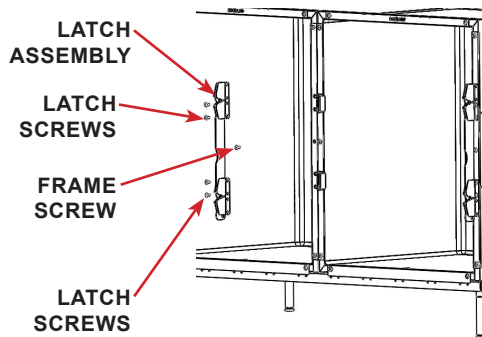

FIGURE 2.28 - Latch Removal
**STEP 18:** Remove the screws (4 ea) holding the latch assembly and the center frame screw from the previous set cage. See FIGURE 2.28